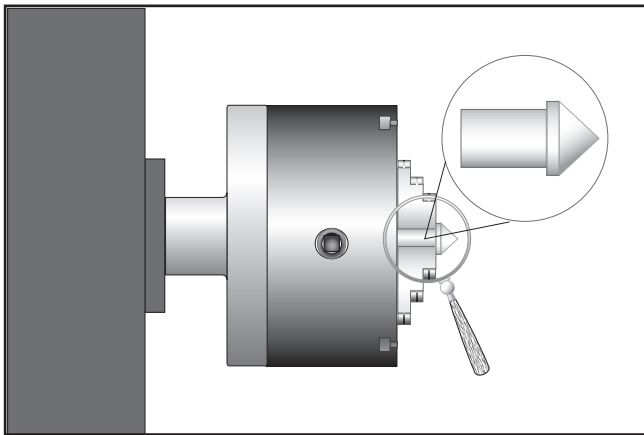

Figure 36. Tailstock centering dead center.
- Using the other piece of round stock, make a dead center by turning a shoulder to make a shank, then flip the piece over in the chuck and turn a 60° point (see **Figure 36** for an example).